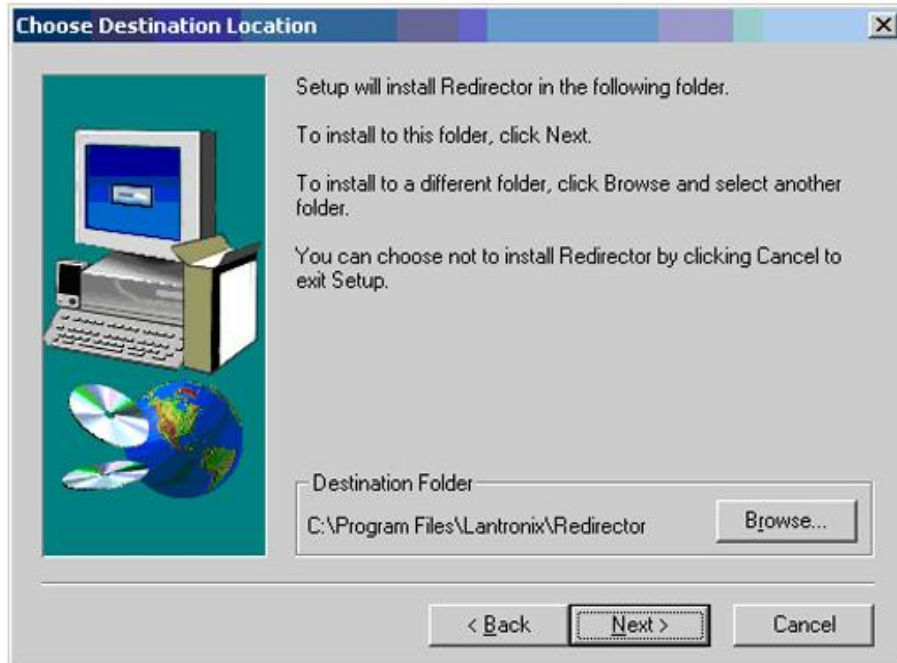

Fig. 1
1. Choose the destination folder (Fig. 1) for the Redirector.